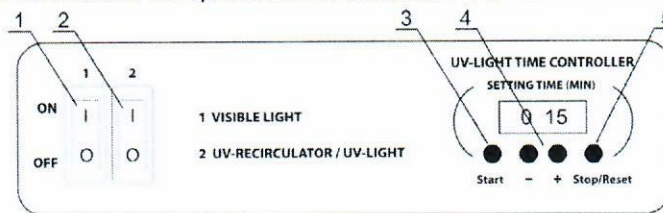
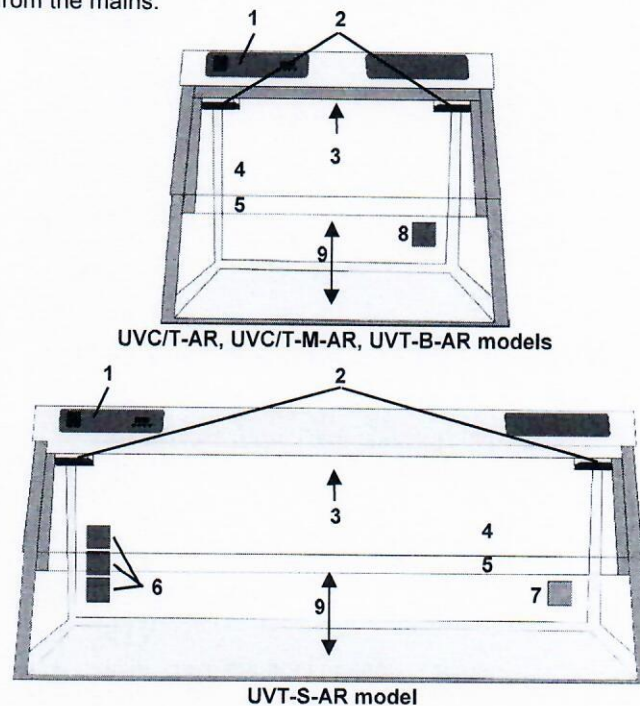

Fig. 2. Control panel
Fig. 3. DNA/RNA UV box, frontal view:
Caution! The open UV lamp inside the unit (fig. 3/3) operates only when the front protective screen is fully lowered. Any operations under direct UV radiation is forbidden!
- 5.2.1. Turn ON the switch 2 (fig. 2/2) on the control panel (fig. 3/1). This switches on the UV recirculator inside the unit (fig. 3/2) and the open UV lamp exposition time controller. The UV recirculator will operate all the time until the switch 2 is turned OFF.
- 5.2.2. Use the timer + and - keys (fig. 2/4) to increase and decrease the time (UV-LIGHT TIME CONTROLLER) of direct UV light exposition of the working place, with 1 min increment. Pressing down and holding the button for more than 2 seconds increases the increment.
- 5.2.3. Press the **Start** key (fig. 2/3), the UV lamp will be turned on automatically and the timer will start counting the exposition time. Timer indicator shows actual time: until 1 hour - in minutes and seconds (mm:ss), after 1 hour - in hours and minutes (hh:mm). After reaching the set time the timer will automatically turn off the open UV lamp.
- 5.2.4. The open UV lamp can be switched off by pressing the **Stop/Reset** key (fig. 2/5). The set time of exposition will be saved in the memory. The set time will not be saved after the complete turning off the unit.
- 5.3.1. Turn ON switch 1 (fig. 2/1) for lighting of the working place. This turns ON the luminescent (visible light) lamp inside the cabinet (fig. 3/3).
- 5.3.2. Lift the front protective screen (fig. 3/5) up for work in the cabinet. The opening height is up to 180 mm (fig. 3/9).
Note. Do not block recirculator openings (fig. 3/2).
- 5.3.3. To use electric devices inside the cabinet, pull their power cable through the inlet and close the flap (fig. 3/7 and 3/8, models with cable inlet) or connect the power cable to a built-in mains socket (fig. 3/6 and 3/8, models with mains socket).